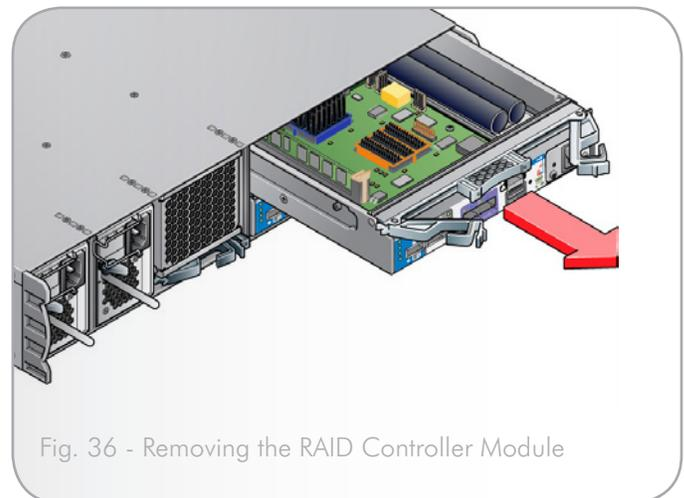

Fig. 36 - Removing the RAID Controller Module
3. Grip the latches as handles and withdraw the RAID Controller module (*Fig. 36*).